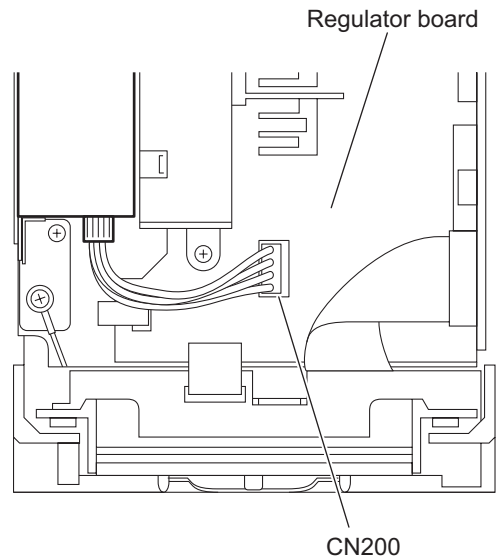

Fig.13
3.1.6 Removing the switching power supply (See Figs.13 and 14)
- (1) From the top side of the main body, disconnect the wire from the connector CN200 on the regulator board. (See Fig.13.)